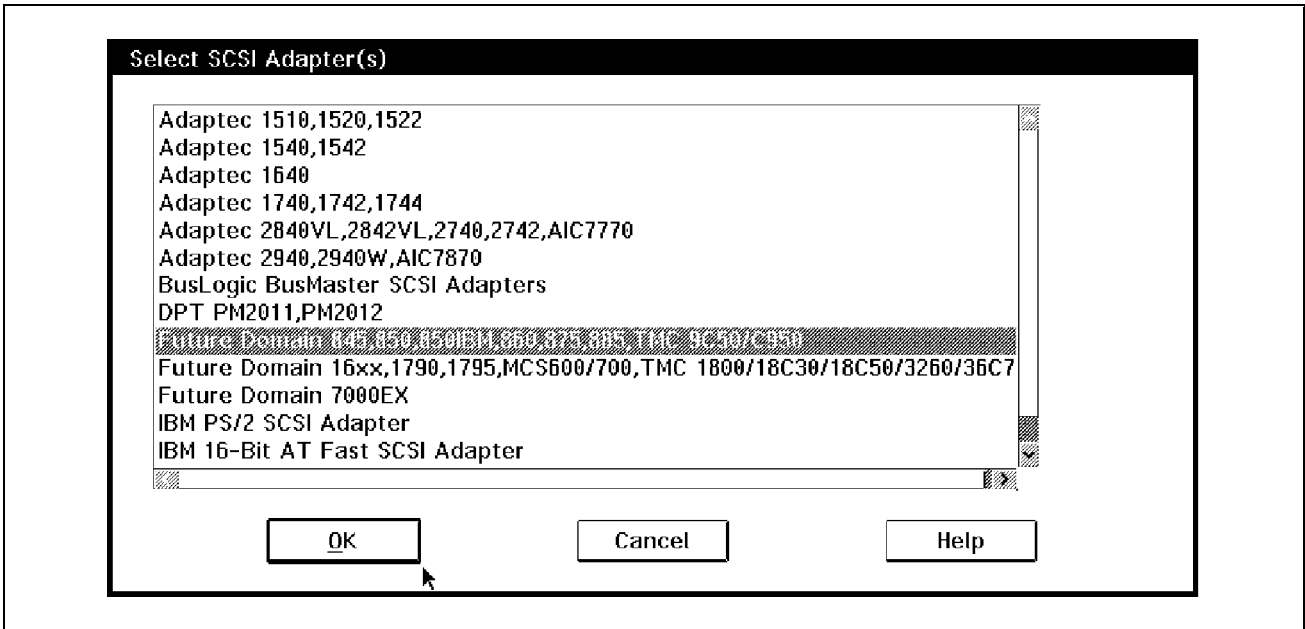

Figure 43. Select SCSI Adapter
4. Select your adapter from the list shown in Figure 43 on page 132. You may select more than one SCSI adapter.